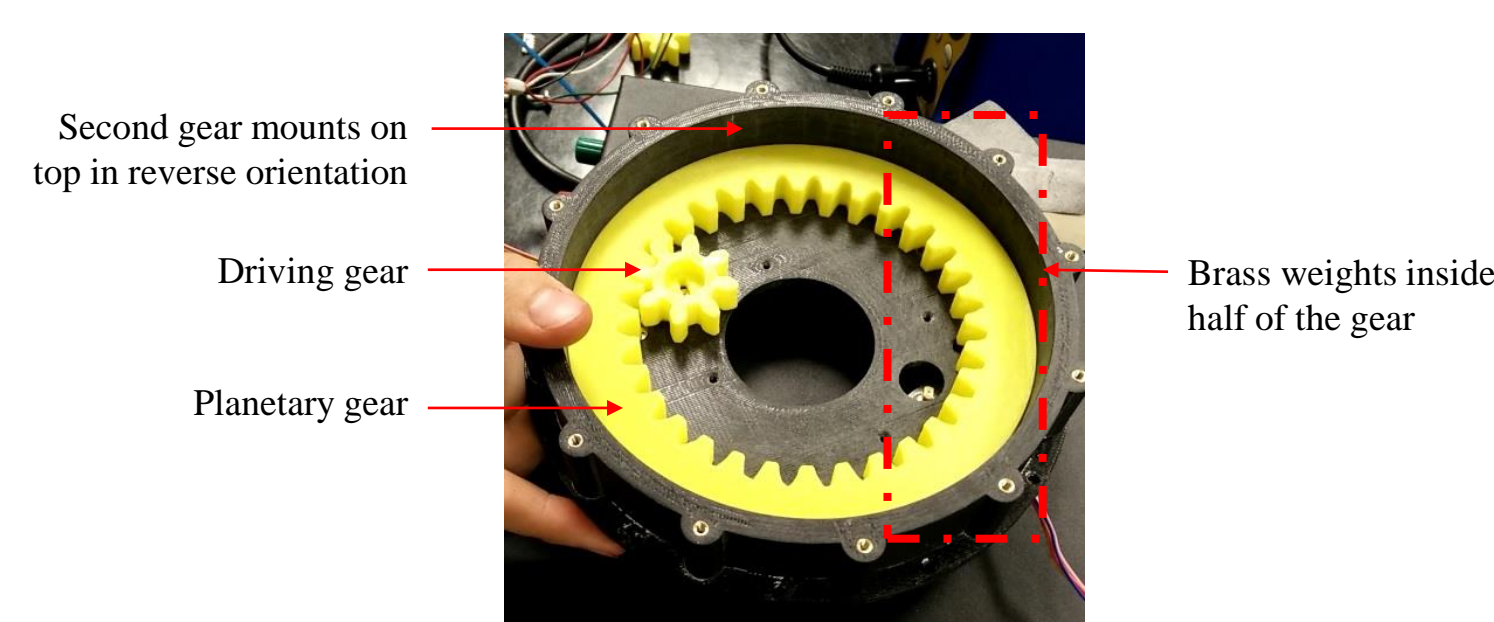

Figure 3: Internal view of the steering mechanism
*Characteristics:* 360° steering, assembled as seen in Figures 3 and 4